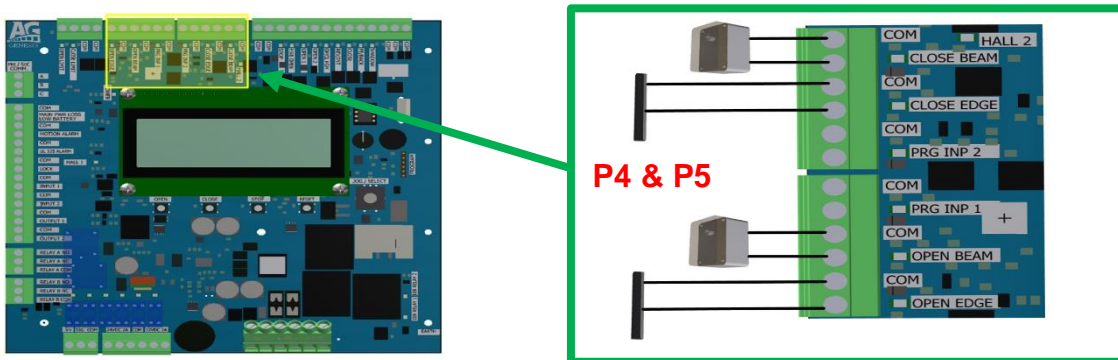

FIGURE 5
- Observe the led below the **Open Edge** port on the **GENESIS** control board (**FIGURE 5**). It will illuminate when compressing the **Arm Open Edge** signaling contact.